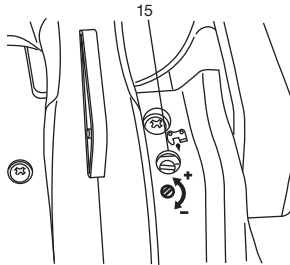

Fig. 9
Turn the adjusting screw (15) counter-clockwise to increase the quantity and turn it clockwise to decrease the quantity. (Fig. 9) (standard setting turns counter-clockwise 1-1 1/2 from slightly seated)